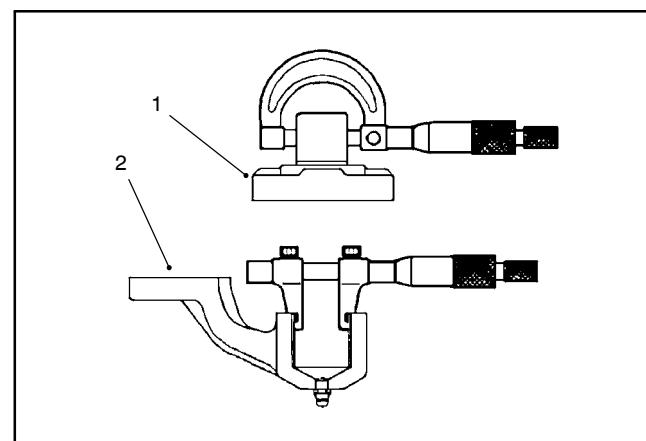

Figure 15
1. Measure the knuckle pin O.D. and the axle case support bushing I.D. to determine the bushing to pin clearance (Fig. 15). Replace components as necessary.